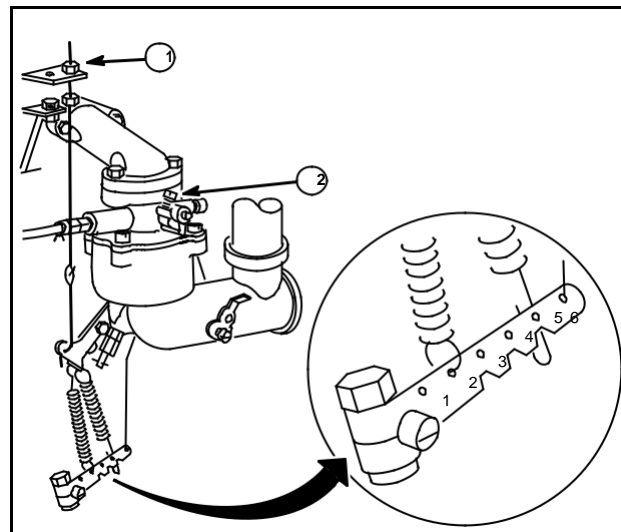

Fig. 39
First make final carburetor mixture adjustments. Then place remote control in idle position. Hold throttle shaft in closed position and adjust idle screw (2) to 1000 RPM. Release the throttle. With remote control in idle position, adjust upper elastic stop nut (1) to 1200 RPM, Fig. 39.